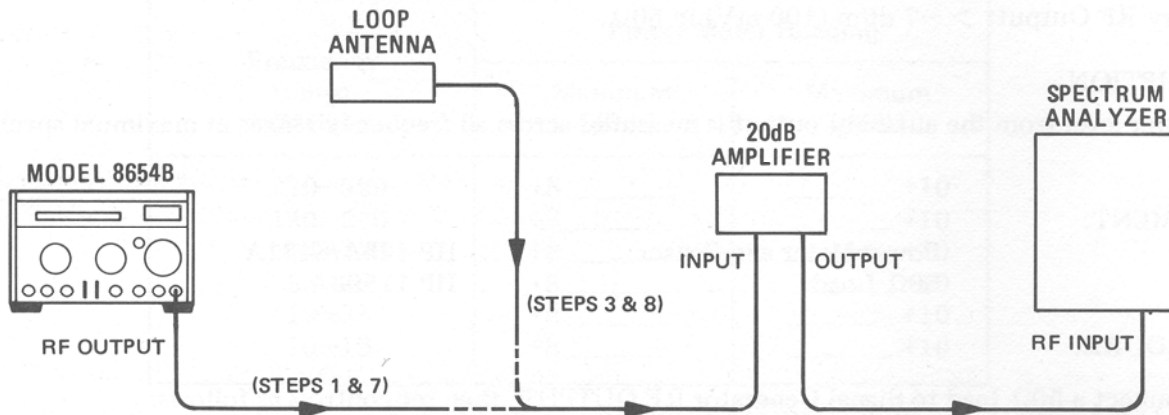

Figure 4-6. Output Leakage Test Setup
1. Connect equipment as shown in Figure 4-6 (with Signal Generator connected to spectrum analyzer through 0.1 to 400 MHz amplifier). Set generator controls as follows: